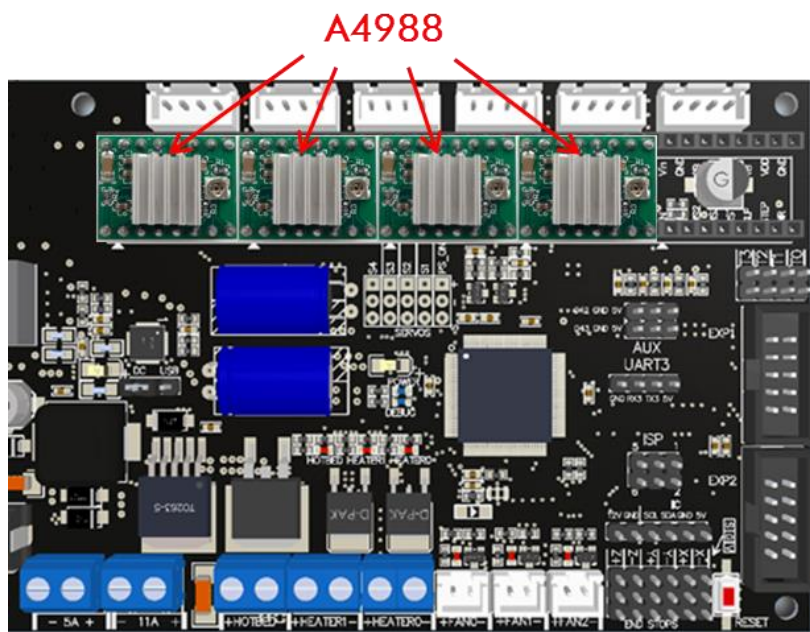

Fig. 29
Step 4. Next, as shown in Fig. 29, fix 4 pieces of A4988 onto ANYCUBIC mainboard. **Pay closely attention** to the configuration and direction of the drivers and board to avoid any unnecessary problem/damage during use.